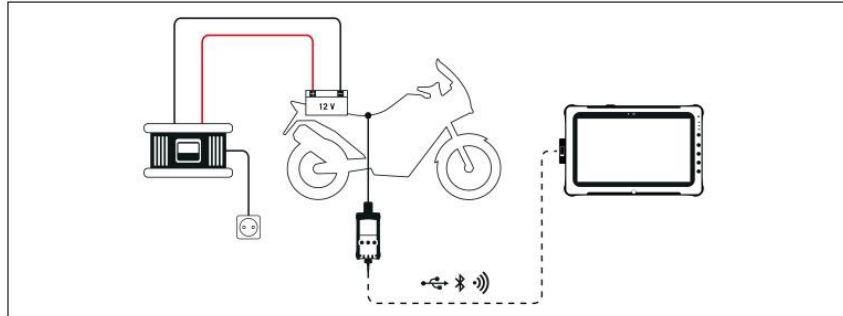

Fig. 2
- Connect the XC\_2 diagnostic tool and its VCI to the vehicle, preferably with the USB cable (Fig. 2).